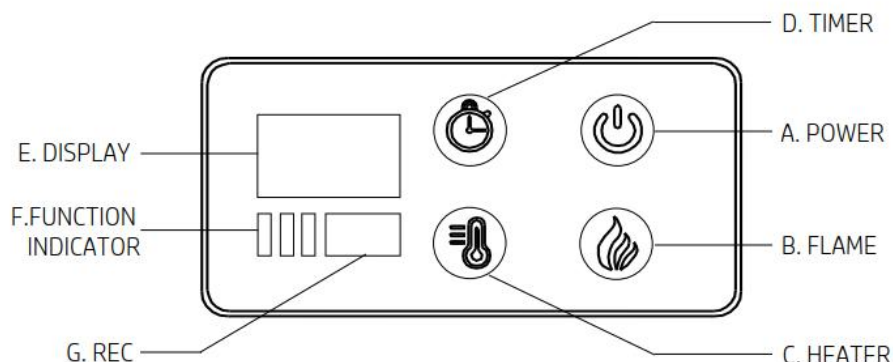

Figure 3
■ POWER (Figure 3.A):
■ FLAME (Figure 3.B):
- Press the flame button (B) to set the flames for different levels of flame height. These flame levels are shown in the display (E). The flame settings are as follows:
- Press FLAME button 6S to FLAME SPEED mode, After this is set, the display (E) turn off will exit from setting status.
■ HEATER (Figure 3.C)
- The heater button (C) turns the heater on or off. There is no speed setting for the heater blower. If you put the heater in a standby mode (turn off by the main power button A), the unit will hold the settings in the memory. When the power is turned back on, the heater will turn on at the same settings.
- When the heating function turns on, press and hold the heater button (C) to enter temperature adjustment mode. The LED indicator is red.
- There are 11 levels to change Fahrenheit temperature 72°F—74°F...82°F —ON—OF—62°F—64°F ...70°F. After this is set, the display (E) will flash five times and exit from setting status. If idle, the display turns off after 5 seconds.
- There are 11 levels to change Celsius temperature 22°C—23°C ...27°C—ON—OF—17°C— 18...21°C. After it is set, the display (E) flashes five times. If idle, the display turns off after 5 seconds.
■ **TIMER (Figure 3.D):**
- Press the TIMER button to turn the timer feature ON and OFF. This interval period is shown in the display (E) in blue. When turn is "OF" pressed, the timer is turn off.
- Press the TIMER button to set the turn off time between 0.5H to 9H, the are 30-1H-2H-3H-4H-5H-6H-7H-8H-9H. Upon the required turn off time is set, the display(E) 5 seconds and exit from setting status.
■ **DISPLAY (Figure 3.E)**
■ **FUNCTION INDICATOR (Figure 3.F)**
■ **REC (Figure 3.G)**